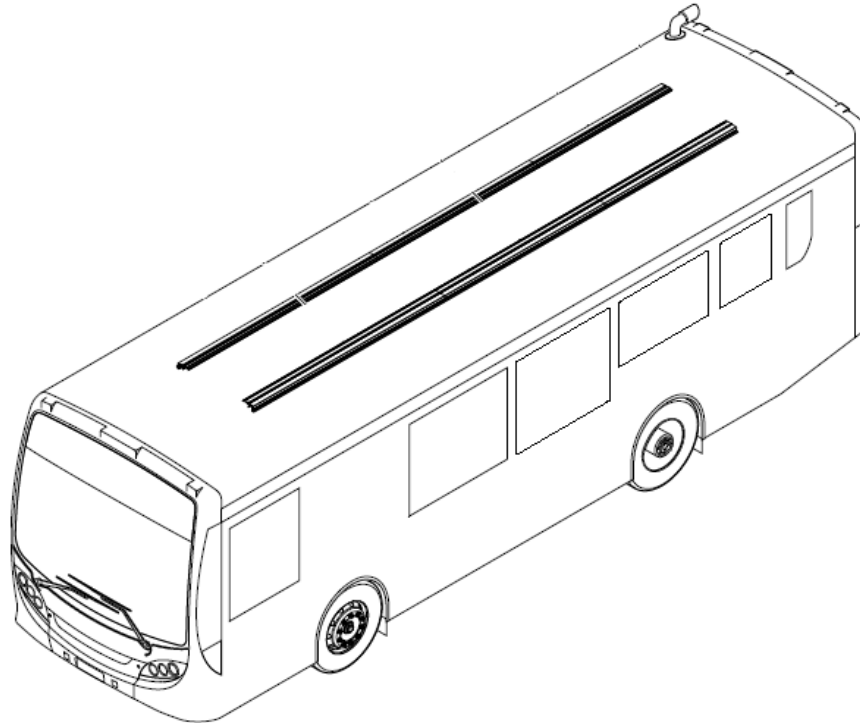
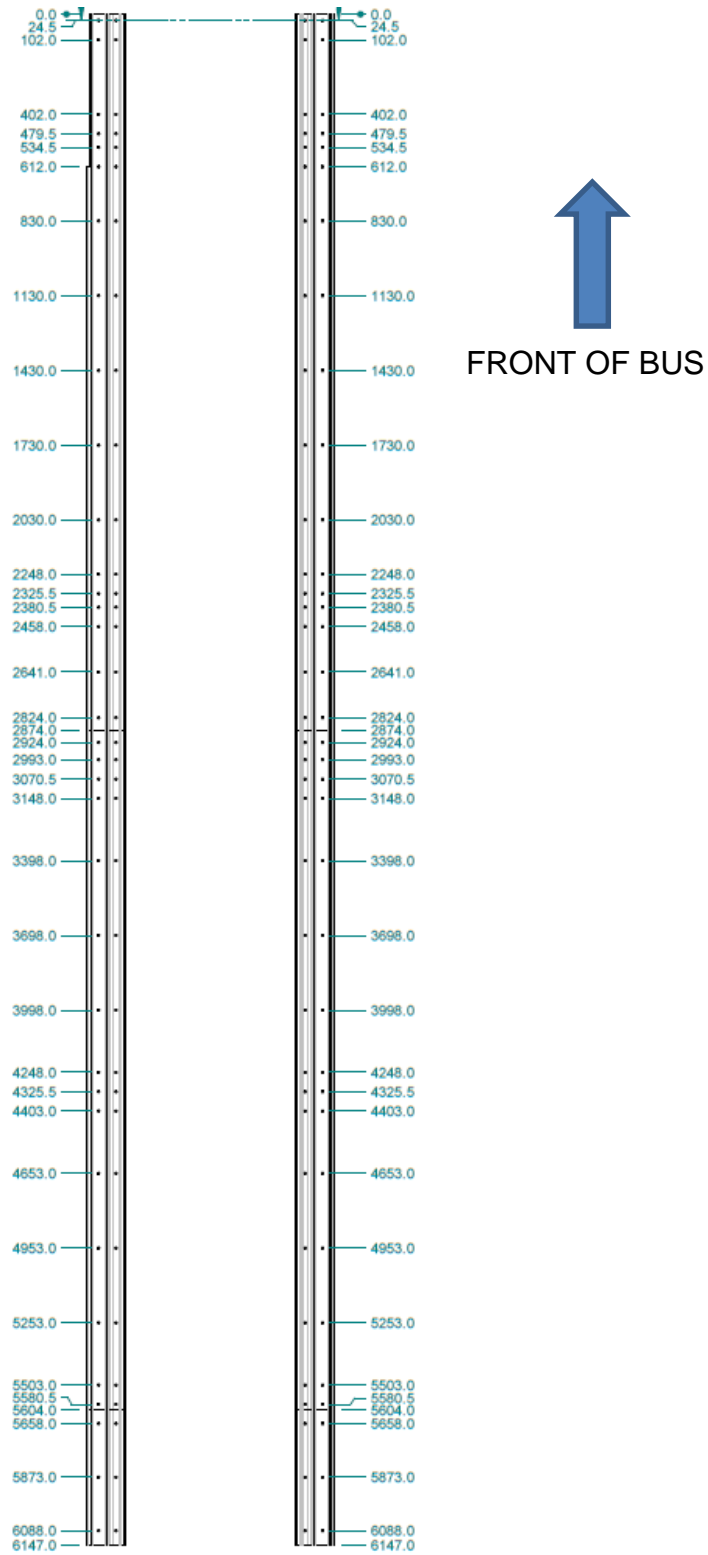

Figure 1: Location of extrusions
Figure 2: Hole locations in ceiling extrusions
3. Starting from the front of the bus remove each screw, apply sika sealant, and then re-secure with the supplied rivet. Repeat this process 70 times per side of the bus (total 140 rivets) until all screws are replaced with rivets. Figure 1 shows the location of the extrusions and figure 2 shows the locations of the holes on those extrusions.